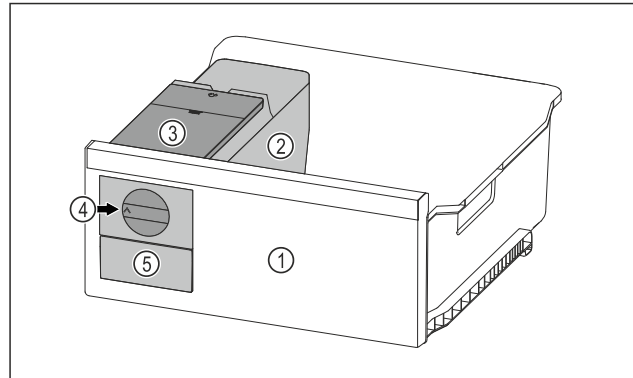

Fig. 123 Example illustration
- ▶ Turn the rotary knob Fig. 123 (4) clockwise as far as it will go.
- ▷ Ice cubes fall from the ice cube tray into the ice cube drawer Fig. 123 (5).